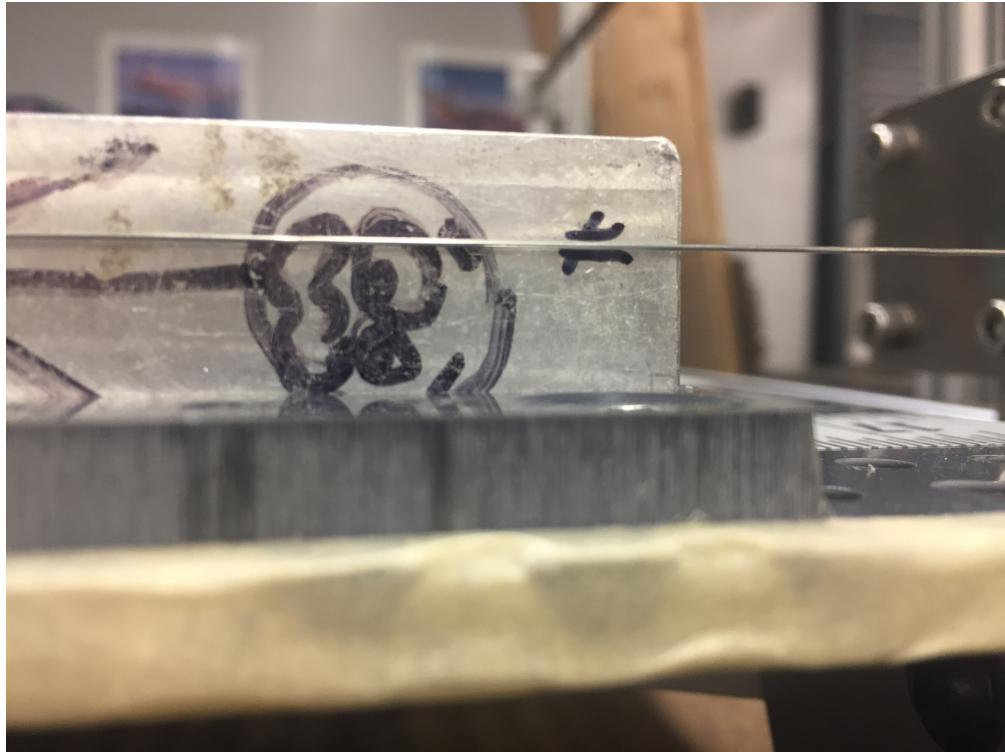

Figure 1.17: Calibrate Wire Origin in the Vertical Direction
7. Again, place a Aluminum block on the work panel against the work panel guiding block, but observe horizontally as shown in fig 1.17 below. Both the far left and the far right of the wire should sit at the same height. The height could be arbitrary, but should be higher than the thumb screws on the work panel. Again, measure the amount that needs to be adjusted in millimeters.